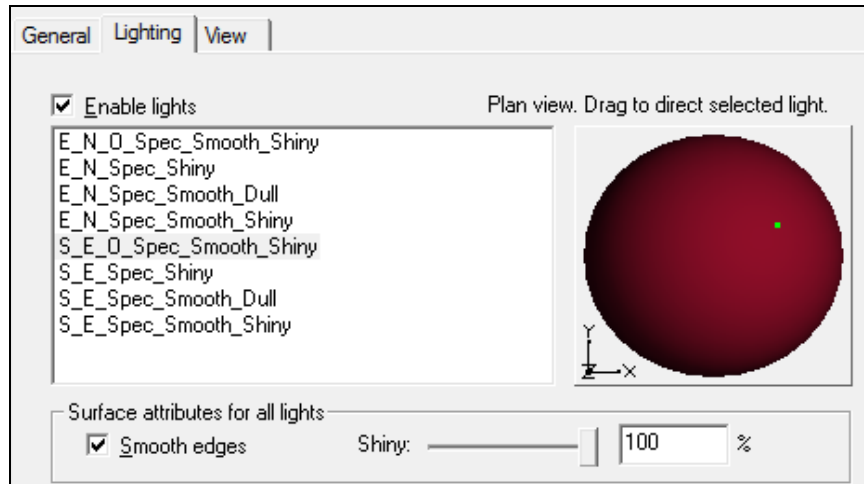

Figure 5 Lighting tab light position
2. Using the sphere in the upper right corner of the tab, click and drag on the sphere to show the light source coming from the northeast direction as seen in Figure 5.